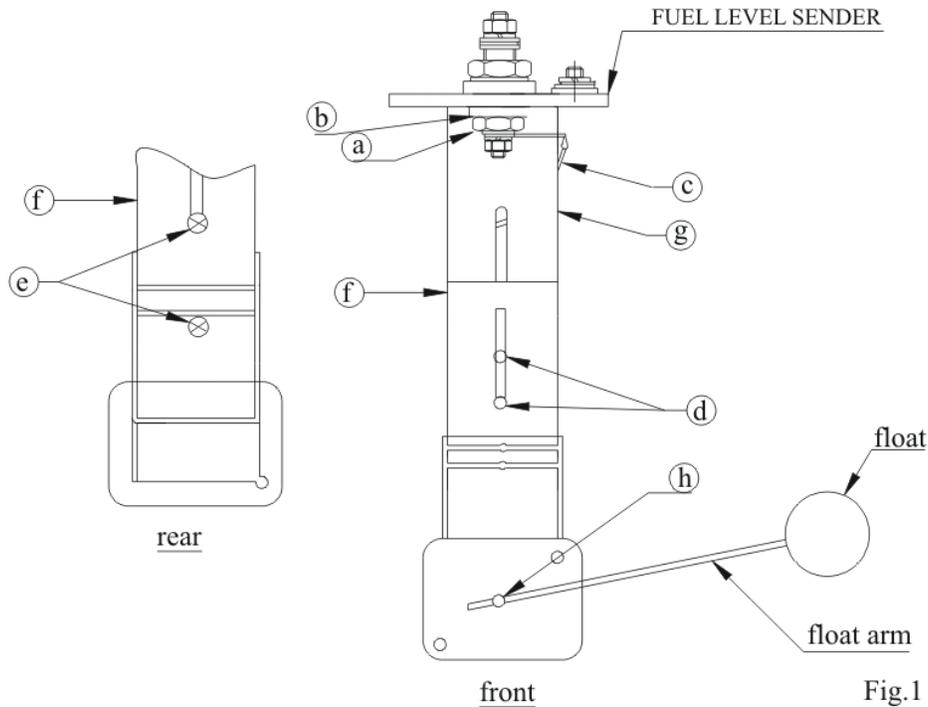

Fig.1
II. For tank depths 6" to 15-1/2", it will be necessary to eliminate a part of the assembly. (See Fig.1) proceed as follows:
**NOTE:** Make sure the float is installed as shown in Fig.1. If installed backwards, the fuel gauge will indicate "full" when the tank is empty, and "empty" when the tank is full.